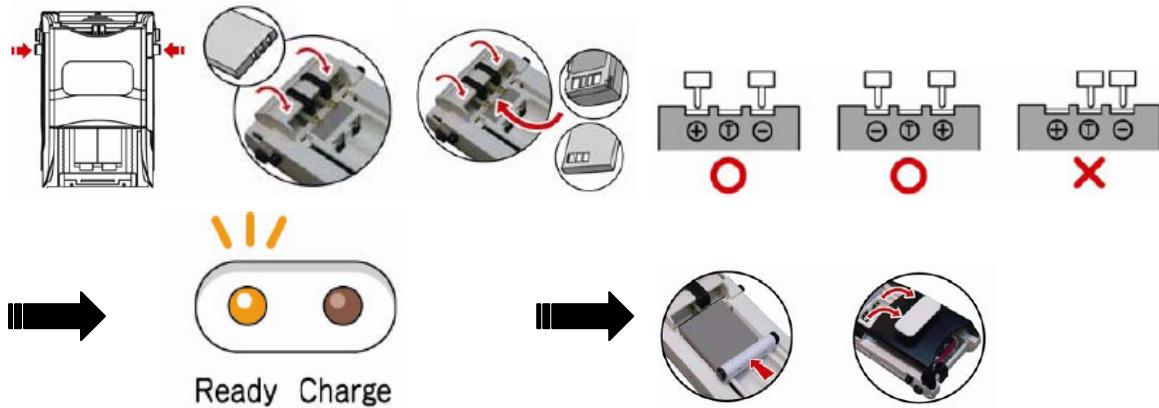

Fig. 2.1
1. Remove the Lithium battery from its device, place it in the tray (12) of the charger.
2. Check polarity by adjusting the spring contactors with battery charging connections until the “Ready” LED indicator (9) turns on.
Adjust the spring contactors pointing horizontally by pressing both sides of “Angle stop releasing knob” (4), make contact with the battery charging connections until the “Ready” LED indicator (9) turns on, then affix the battery by using the Rear Plate Fixing Bar (6) or upper cover (8). (Fig. 2.1)